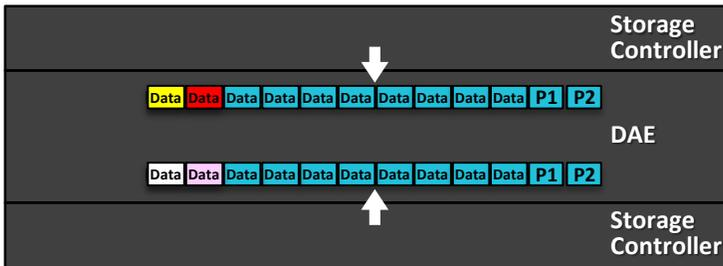

Figure 10. Stripes Committed to SSDs
- 9. Once a Storage Controller has enough data blocks to fill the emptiest stripe in the array (or a full stripe if available), it transfers them from the cache to SSDs, as shown in Figure 10.